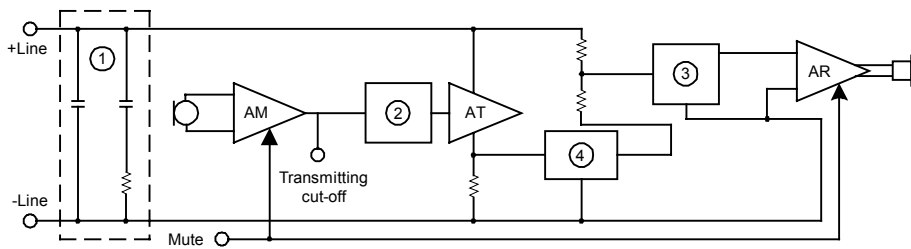

Figure 4. Block interconnections
In fig.4 ①②③ and ④ are RC-links with the following functions: